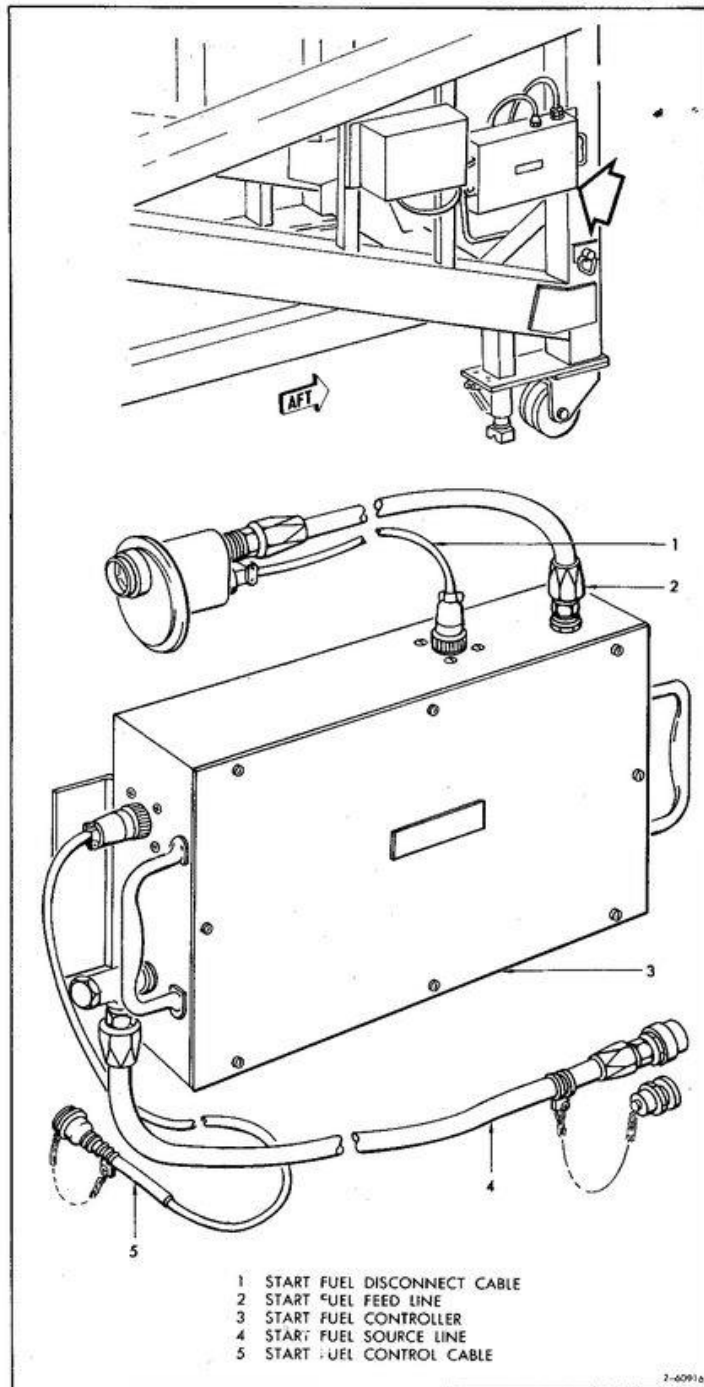

Figure 3-5. Engine Start Fuel Controller
a. Install Engine Start Fuel Controller (3, figure 3-5) on engine start fuel controller brackets aft on left side of launcher.
b. Connect start fuel source line (4) between controller and disconnect in concrete pipe on level 2 of bay.
c. Connect start fuel control cable (5) between J1 on controller and J9010 on Umbilical Outlet Box.
- a. Disconnect all lines and cables from Engine Start Fuel Controller (figure 3-5) and from pipe, Umbilical Outlet Box, and Missile.